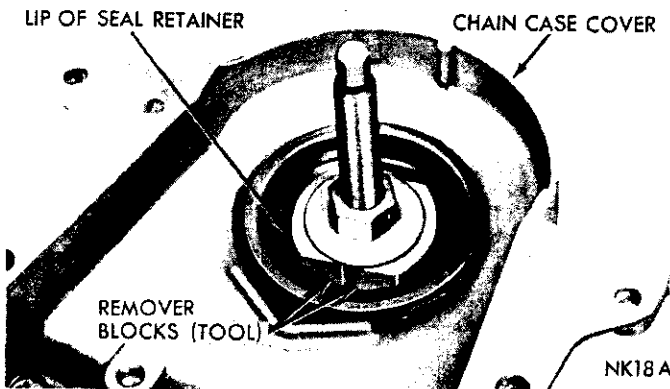
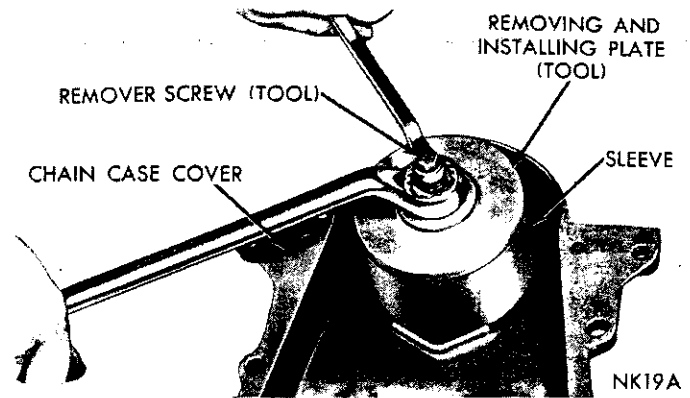

Fig. 25—Remover Blocks Expanded to Puller Position
Fig. 26—Removing Oil Seal
(1) Position remover screw of Tool C-3506 through case cover with inside of case cover up. Position puller blocks directly opposite each other, and force the angular lip between the neoprene and flange of the seal retainer.
(2) Place washer and nut on remover screw. Tighten nut, forcing the blocks into the gap to a point of distorting the seal retainer lip, (Fig. 25). This is important, **remover is only positioned at this point.**
(3) Place sleeve over the retainer and place removing and installing plate into sleeve.
(4) Place flat washer and nut on remover screw. Hold tool center screw and tighten tool lock nut to remove seal, (Fig. 26).
(5) Insert remover screw through removing and installing plate so that the thin shoulder will be facing up.
(6) Insert remover screw with plate through the seal opening (inside of chain case cover facing up).